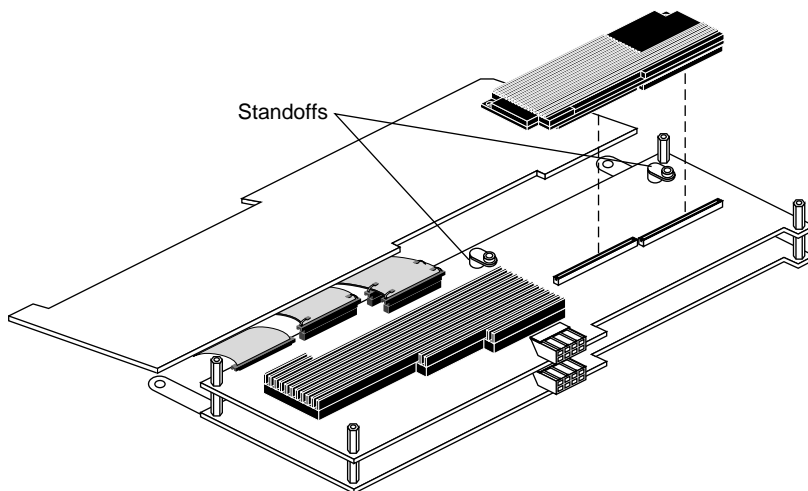

Figure 5-37 Aligning the Texture Memory Board on the Middle Board
10. Align the connectors on the underside of the texture memory board with the connectors on the middle graphics board, and the standoffs with the holes along the edge of the texture memory option board. See Figure 5-37.